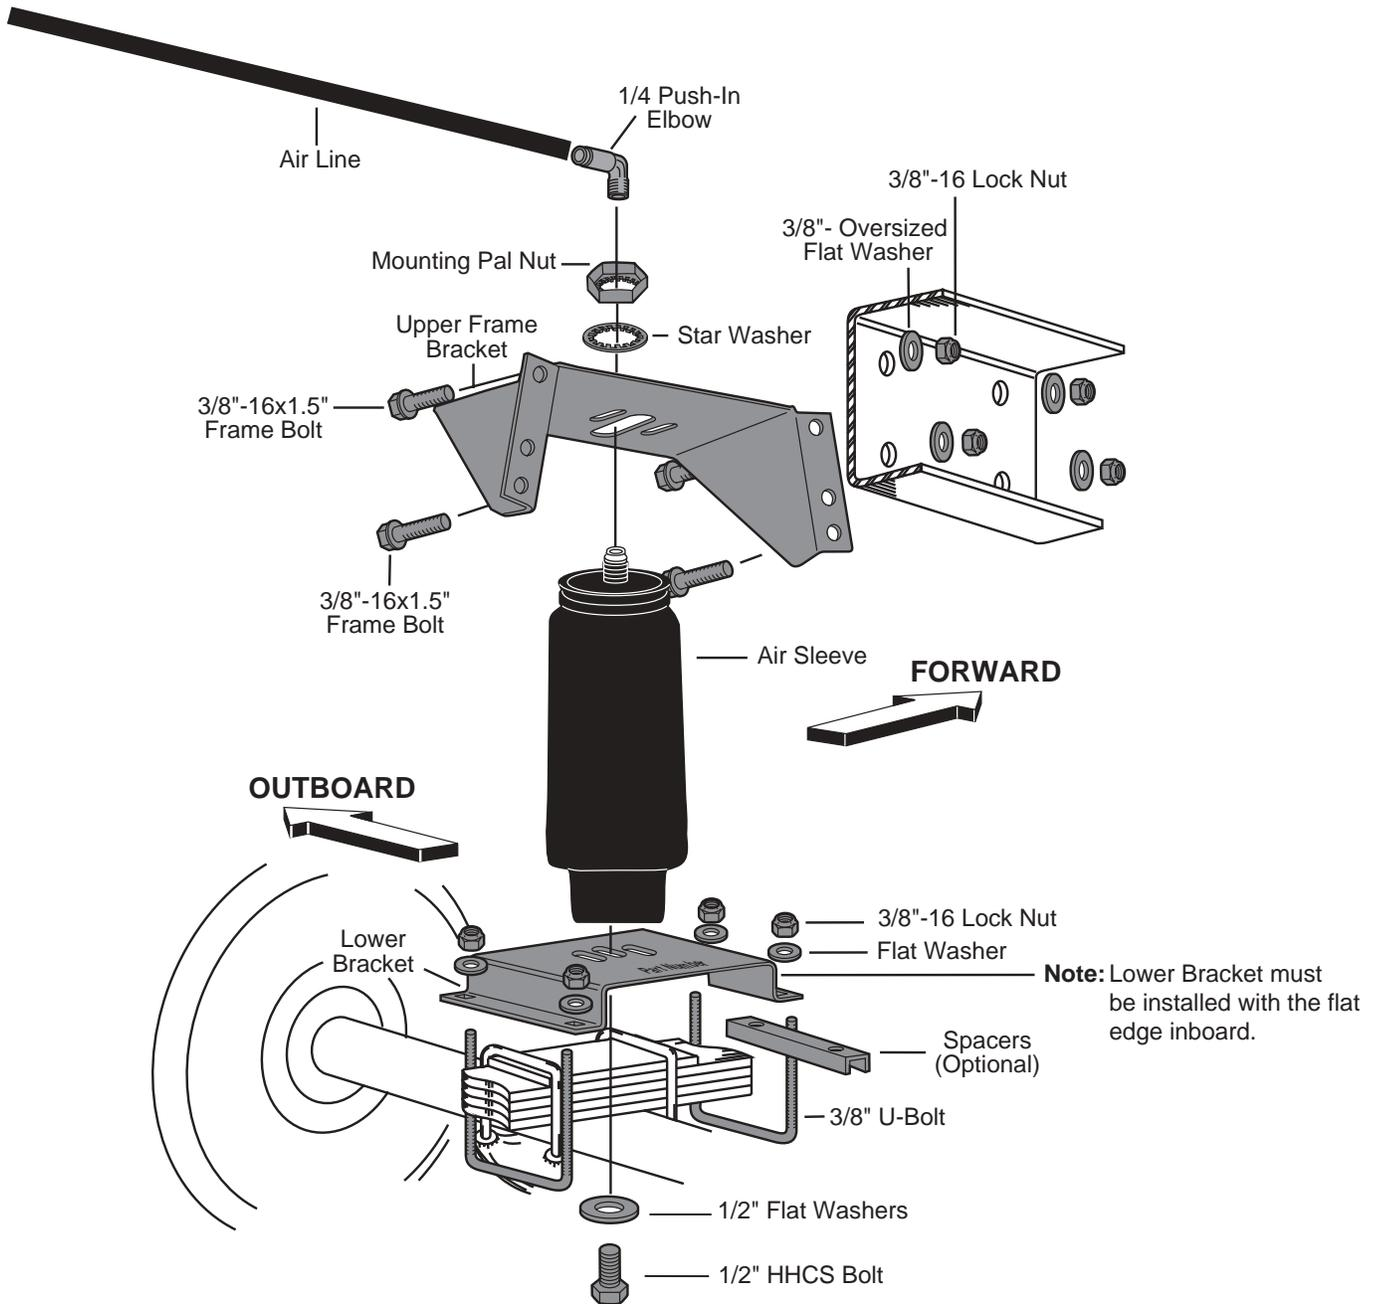

Figure 1
6. Set the assembly on the leaf spring centered over the axle and attach the lower bracket as shown in Figure 1 using the UBolts, flat washers and lock nuts. Tighten nuts to 20 ft-lbs.